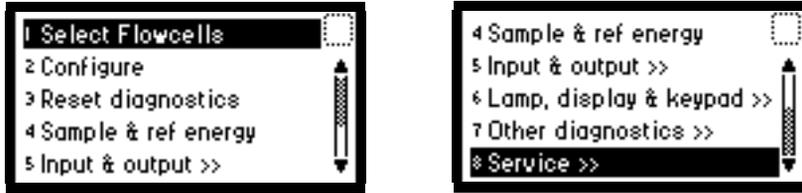

Figure 5-2 Diagnostics Choice List
1. Press the **DIAG** key on the 2488 Detector front panel. The detector displays the Diagnostics choice list (Figure 5-2).